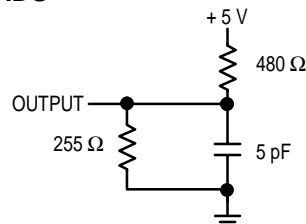

Figure 1B
6. Transition is measured $\pm 500 \text{ mV}$ from steady-state voltage with load of Figure 1B. This parameter is sampled rather than 100% tested. At any given voltage and temperature, t_{KHQZ} max is less than t_{KHQZ1} min for a given device and from device to device.